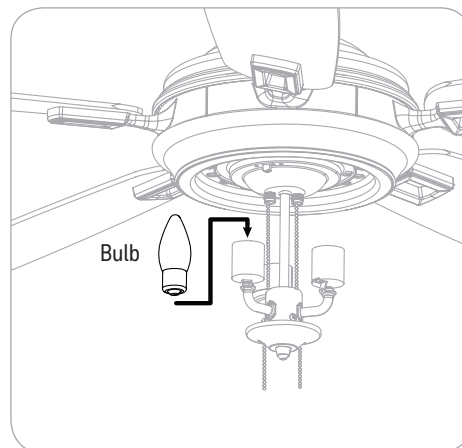

Figure 5.8
- Install the three E26-base LED bulbs (Figure 5.8).